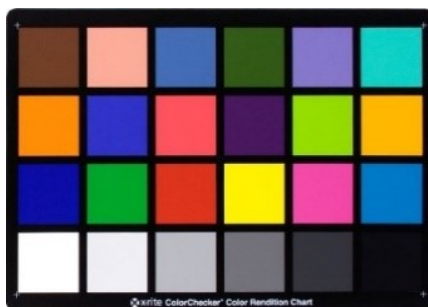

Fig. 5.14: Standard 24 color card
1. Prepare the 24 color card for calibration, as shown in Fig 5-14, as well as the calibrated lens, Sensor and light box set as D65 light source.